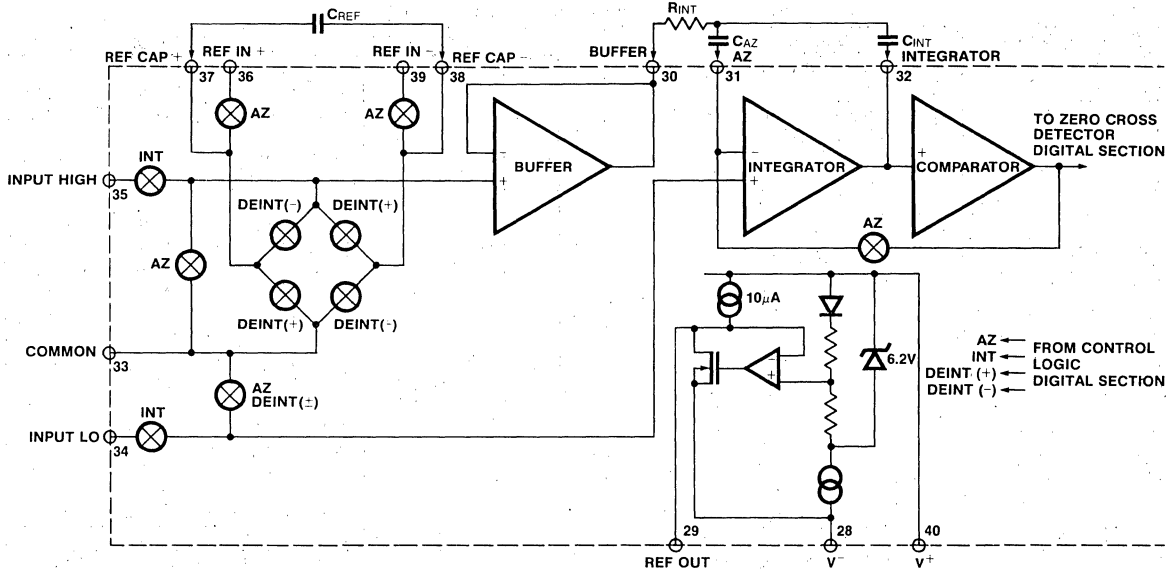
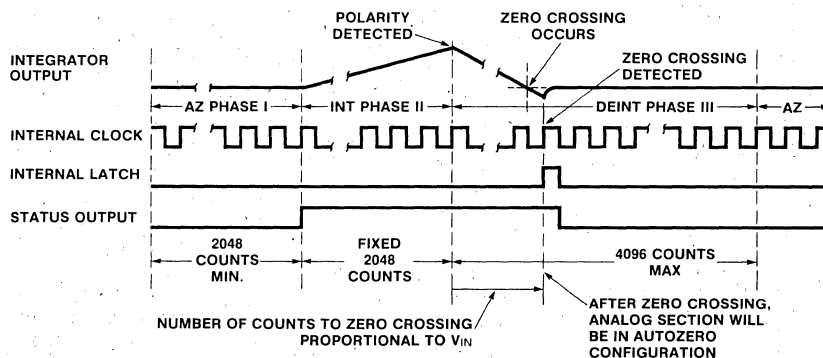

Figure 2: Analog Section
Figure 3: Conversion Timing
Figure 2 shows the equivalent circuit of the Analog Section of the ICL7109. When the RUN/HOLD input is left open or connected to V⁺, the circuit will perform conversions at a rate determined by the clock frequency (8192 clock periods per cycle). Each measurement cycle is divided into three phases as shown in Figure 3. They are (1) Auto-Zero (AZ), (2) Signal Integrate (INT) and (3) Deintegrate (DE).
During a conversion cycle, the STATUS output goes high at the beginning of Signal Integrate (Phase II), and goes low one-half clock period after new data from the conversion has been stored in the output latches. See Figure 3 for details of this timing. This signal may be used as a "data valid" flag (data never changes while STATUS is low) to drive interrupts, or for monitoring the status of the converter.
When the RUN/HOLD input is connected to V^+ or left open (this input has a pullup resistor to ensure a high level when the pin is left open), the circuit will continuously perform conversion cycles, updating the output latches at the end of every Deintegrate (Phase III) portion of the conversion cycle (See Figure 3). In this mode of operation, the conversion cycle will be performed in 8192 clock periods, regardless of the resulting value.